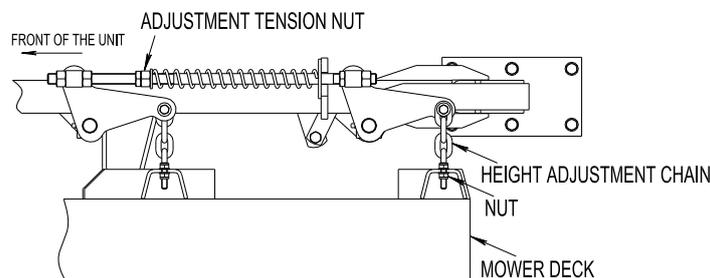

FIG 8
- f) Raise the deck to the highest lock position and take as much force as possible off of the two large deck lift springs by loosening the nuts at the front of each spring. See Figure 8